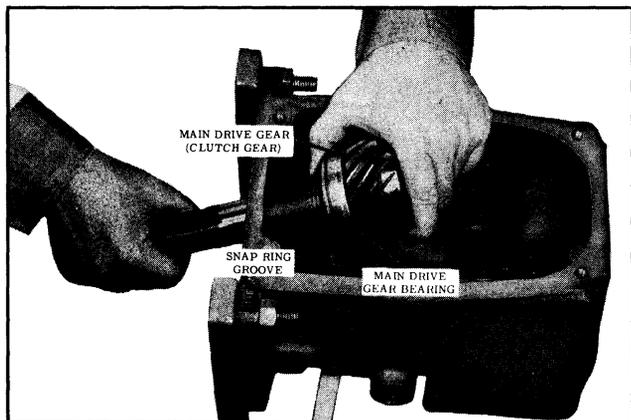

Fig. 11-18 Removing Main Shaft Drive Gear
14. Remove the snap ring from main drive gear bearing and tap drive gear and bearing assembly toward rear of transmission to remove. (See Fig. 11-18)